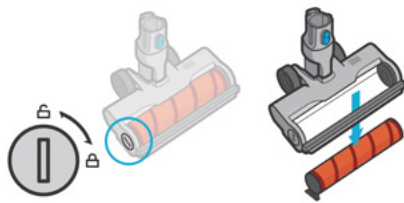

Figure 4.1
2. Use a coin to unlock the roller brush by turning the brush lock counterclockwise until the slot is vertical. Pull the roller brush out [Figure 4.1].